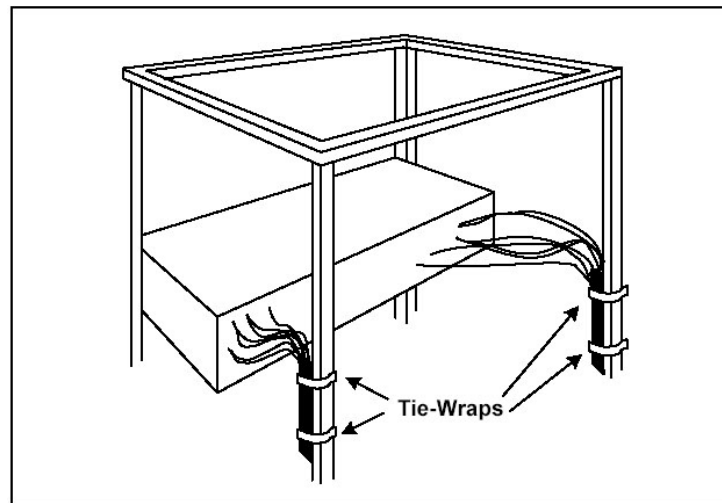

Figure 3. Cabling
2. Provide proper support for each cable during the cabling process. The use of tie-wraps is recommended, as shown below in Figure 3.